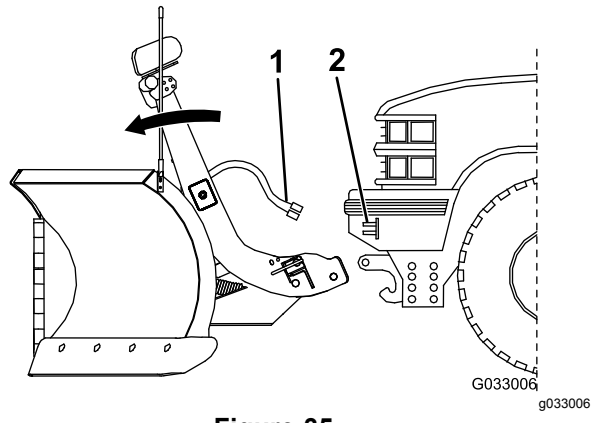

Figure 35
6. Disconnect the plow wire harnesses from the vehicle wire harnesses and secure the electrical-plug dust covers (Figure 35).